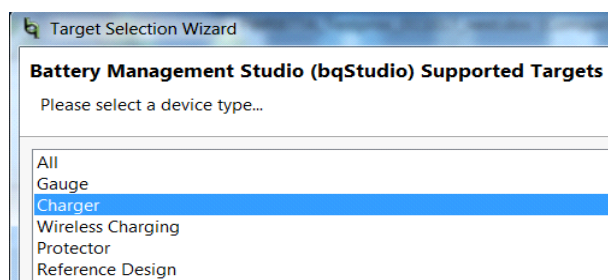

Figure 2-2. BQStudio Device Type Selection Window
1. On the computer connected to the EV2300/2400 interface board, launch Battery Management Studio (BQStudio). Select Charger as seen in Figure 2-2.